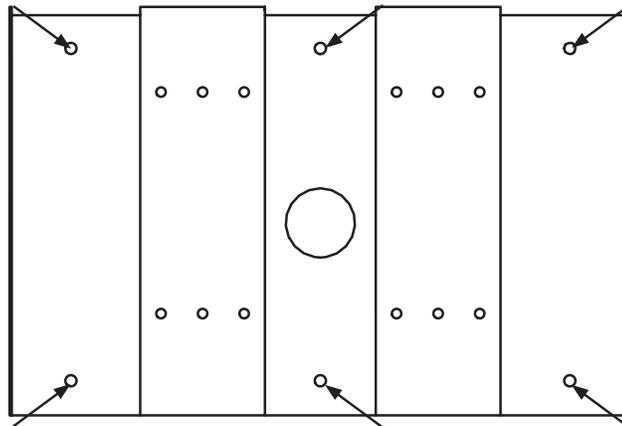

Figure 29. Floor bracket mounting holes
2. Using the floor bracket as a template, trace an opening on the floor for the cutout and mark the 6 floor bracket mounting hole locations as shown in Figure 29.
5. Secure the floor bracket to the floor using 6 bolts through the floor bracket mounting holes shown in Figure 29. The holes are 13/32" (10 mm) in diameter.